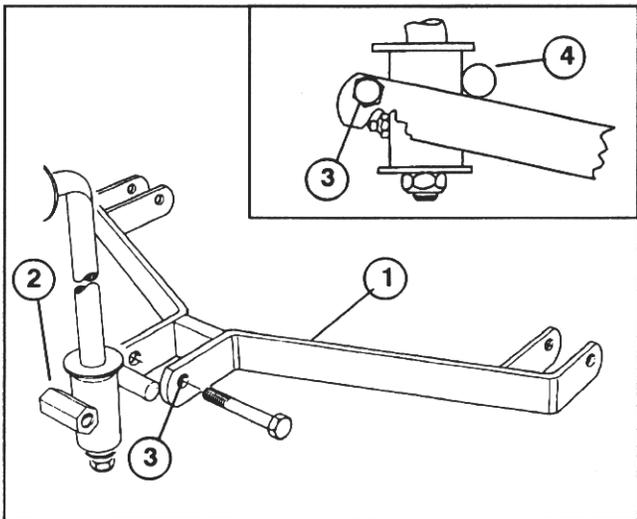

Figure 10
1. Align mounting holes in drawbar with mounting hole in lift bail housing. When installing drawbar, offset hole in drawbar should be positioned up and lift bail stop should be on top of drawbar (Fig. 10 & inset).